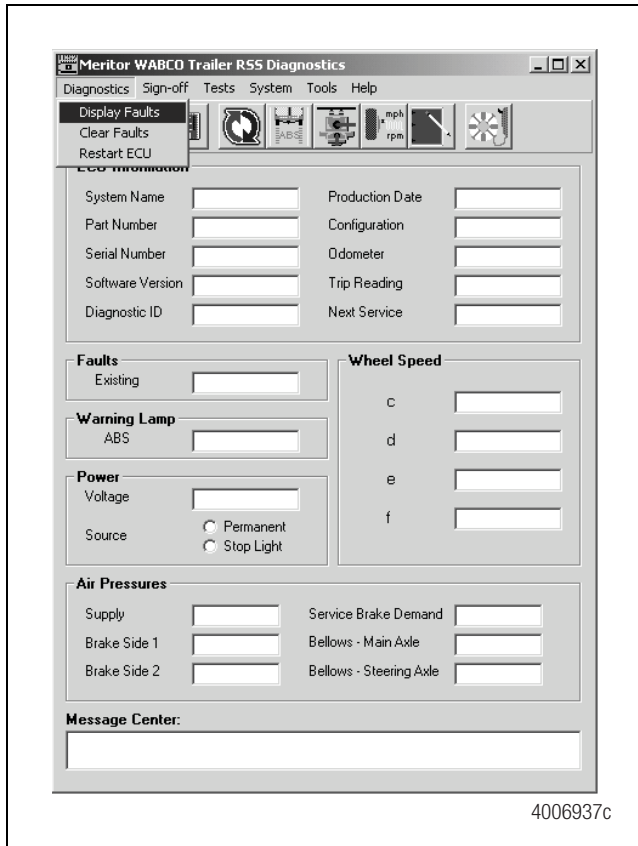

Figure 5.5
1. From the main screen of the Meritor WABCO trailer EBS diagnostics software, select **Diagnostics** from the top menu bar. Figure 5.5.